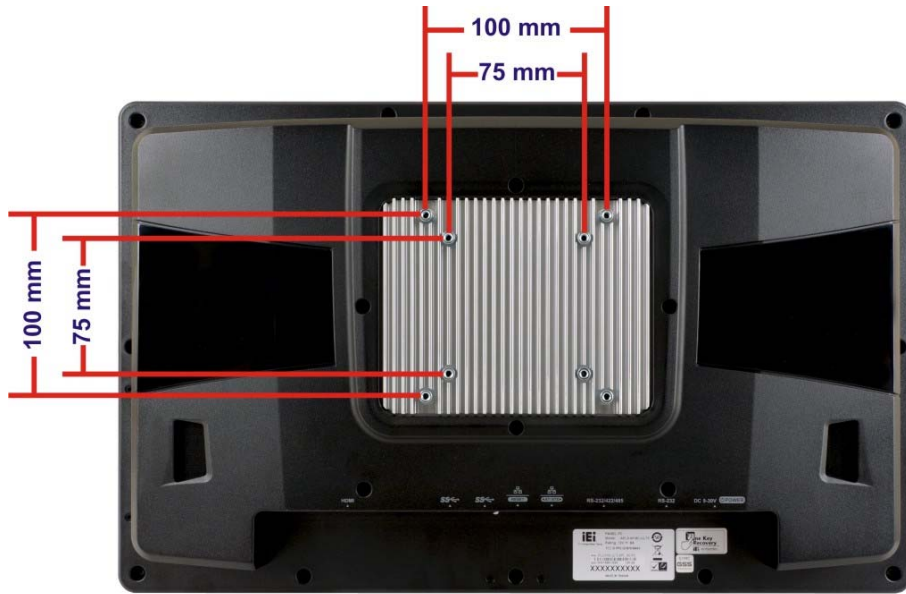

Figure 3-31: Arm Mounting Retention Screw Holes
Step 3: Align the retention screw holes on the mounting arm interface with those in the flat bezel panel PC (**Figure 3-31**).